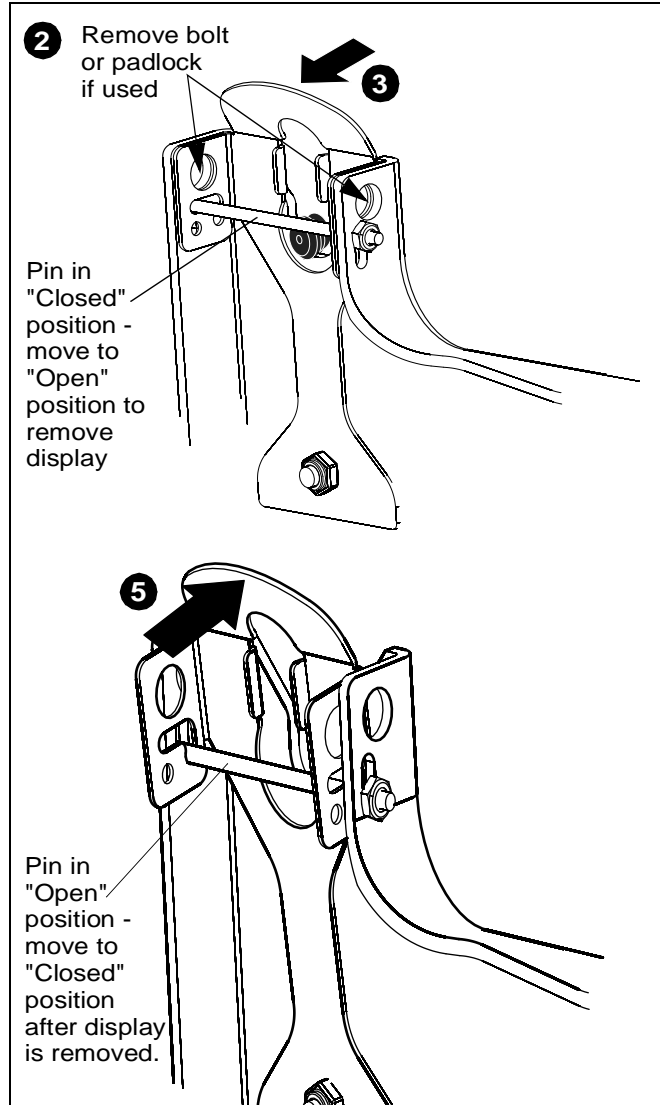

Figure 6
2. Remove bolt or padlock from faceplate (if used). (See Figure 6)
3. Pull back on flag on upper mounting hole and press pin down into "Open" position. (See Figure 6)
5. Lift up on pin and place flag back against faceplate to return it to "Closed" position. (See Figure 6)